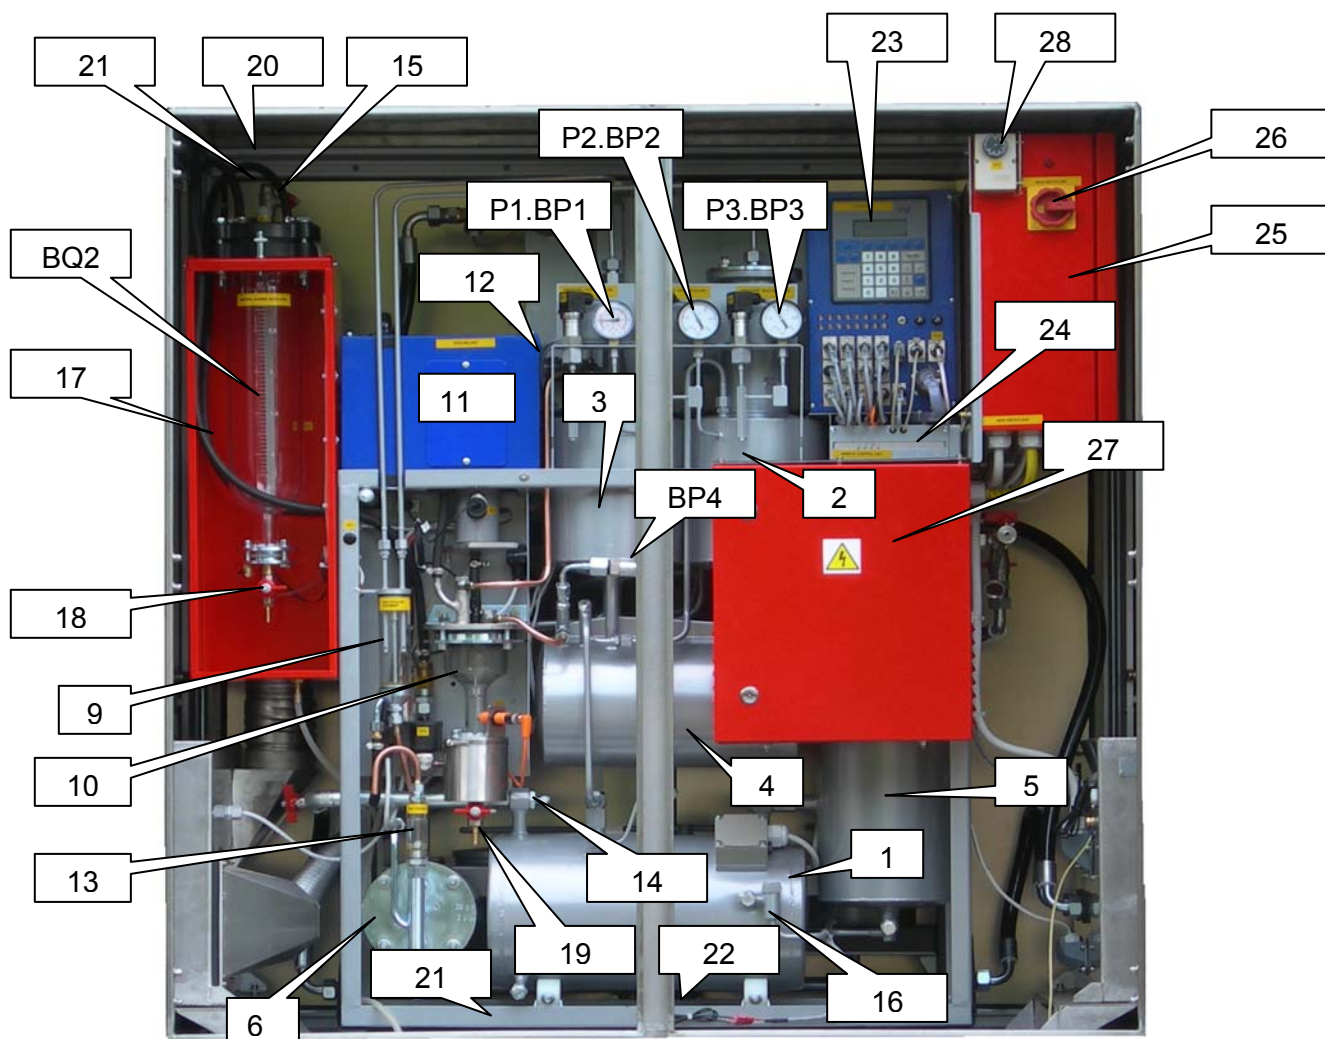

**Fig. 2** Right side of VS-06 CLIMABOX without cover
- attach the oil-inlet set (coupling, insulation insert and servo valve YV4 See Fig.1) to the lower access of the transformer (i.e. bottom filter press cock), then connect to the open end of the servovalve YV4 the in-let hose H1, then connect the opposite end of the hose H1 to the hydraulic connector HC1 (see Fig.2 – right side of the CLIMABOX -cock K-IN), open the cock K-IN
Right side of VS-06 which is used for a hydraulic connection to the transformer, the power supply and the communication, is shown on Fig.2.